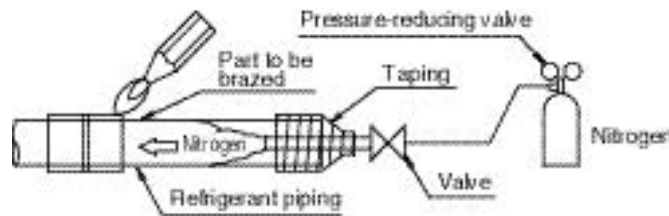

Fig. 4
- 2 When feeding nitrogen into the pipes while brazing, the pressure-reducing valve should be set to 2.9psi. **(Refer to Fig. 4)**